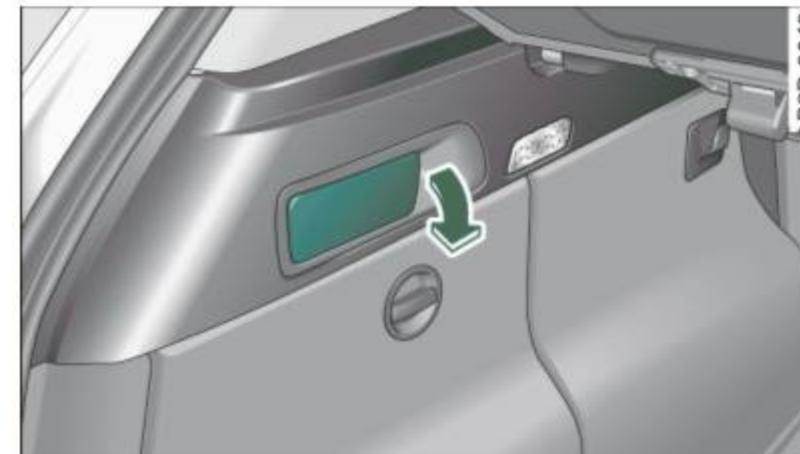

Fig. 79 Luggage compartment: release lever
- Pull the release lever ⇒ *fig. 79* in direction of the arrow. The backrest will swing forward.